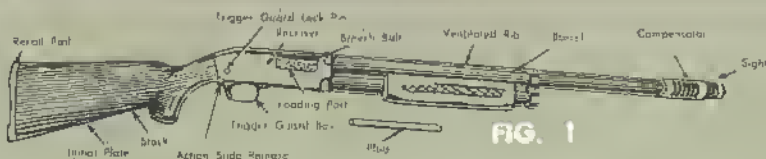

FIG. 1
**TO LOAD CHAMBER:** Open action fully by pulling back on fore-end. If gun is locked, press in action slide release located in rear left side of guard bow. (See Figure 1). Drop shell in loading port. (See Figure 1).